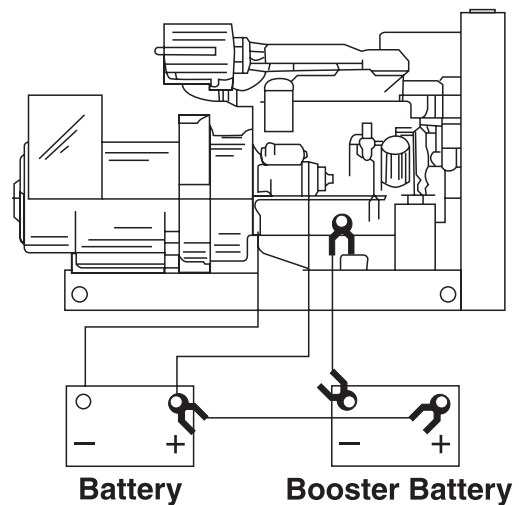

Figure 10: Booster Battery Connections
3. First, connect the positive (+) terminal of the booster battery to the positive (+) terminal of the main battery. Then, connect the negative (–) terminal of the booster battery to ground on the engine block (Figure 10).